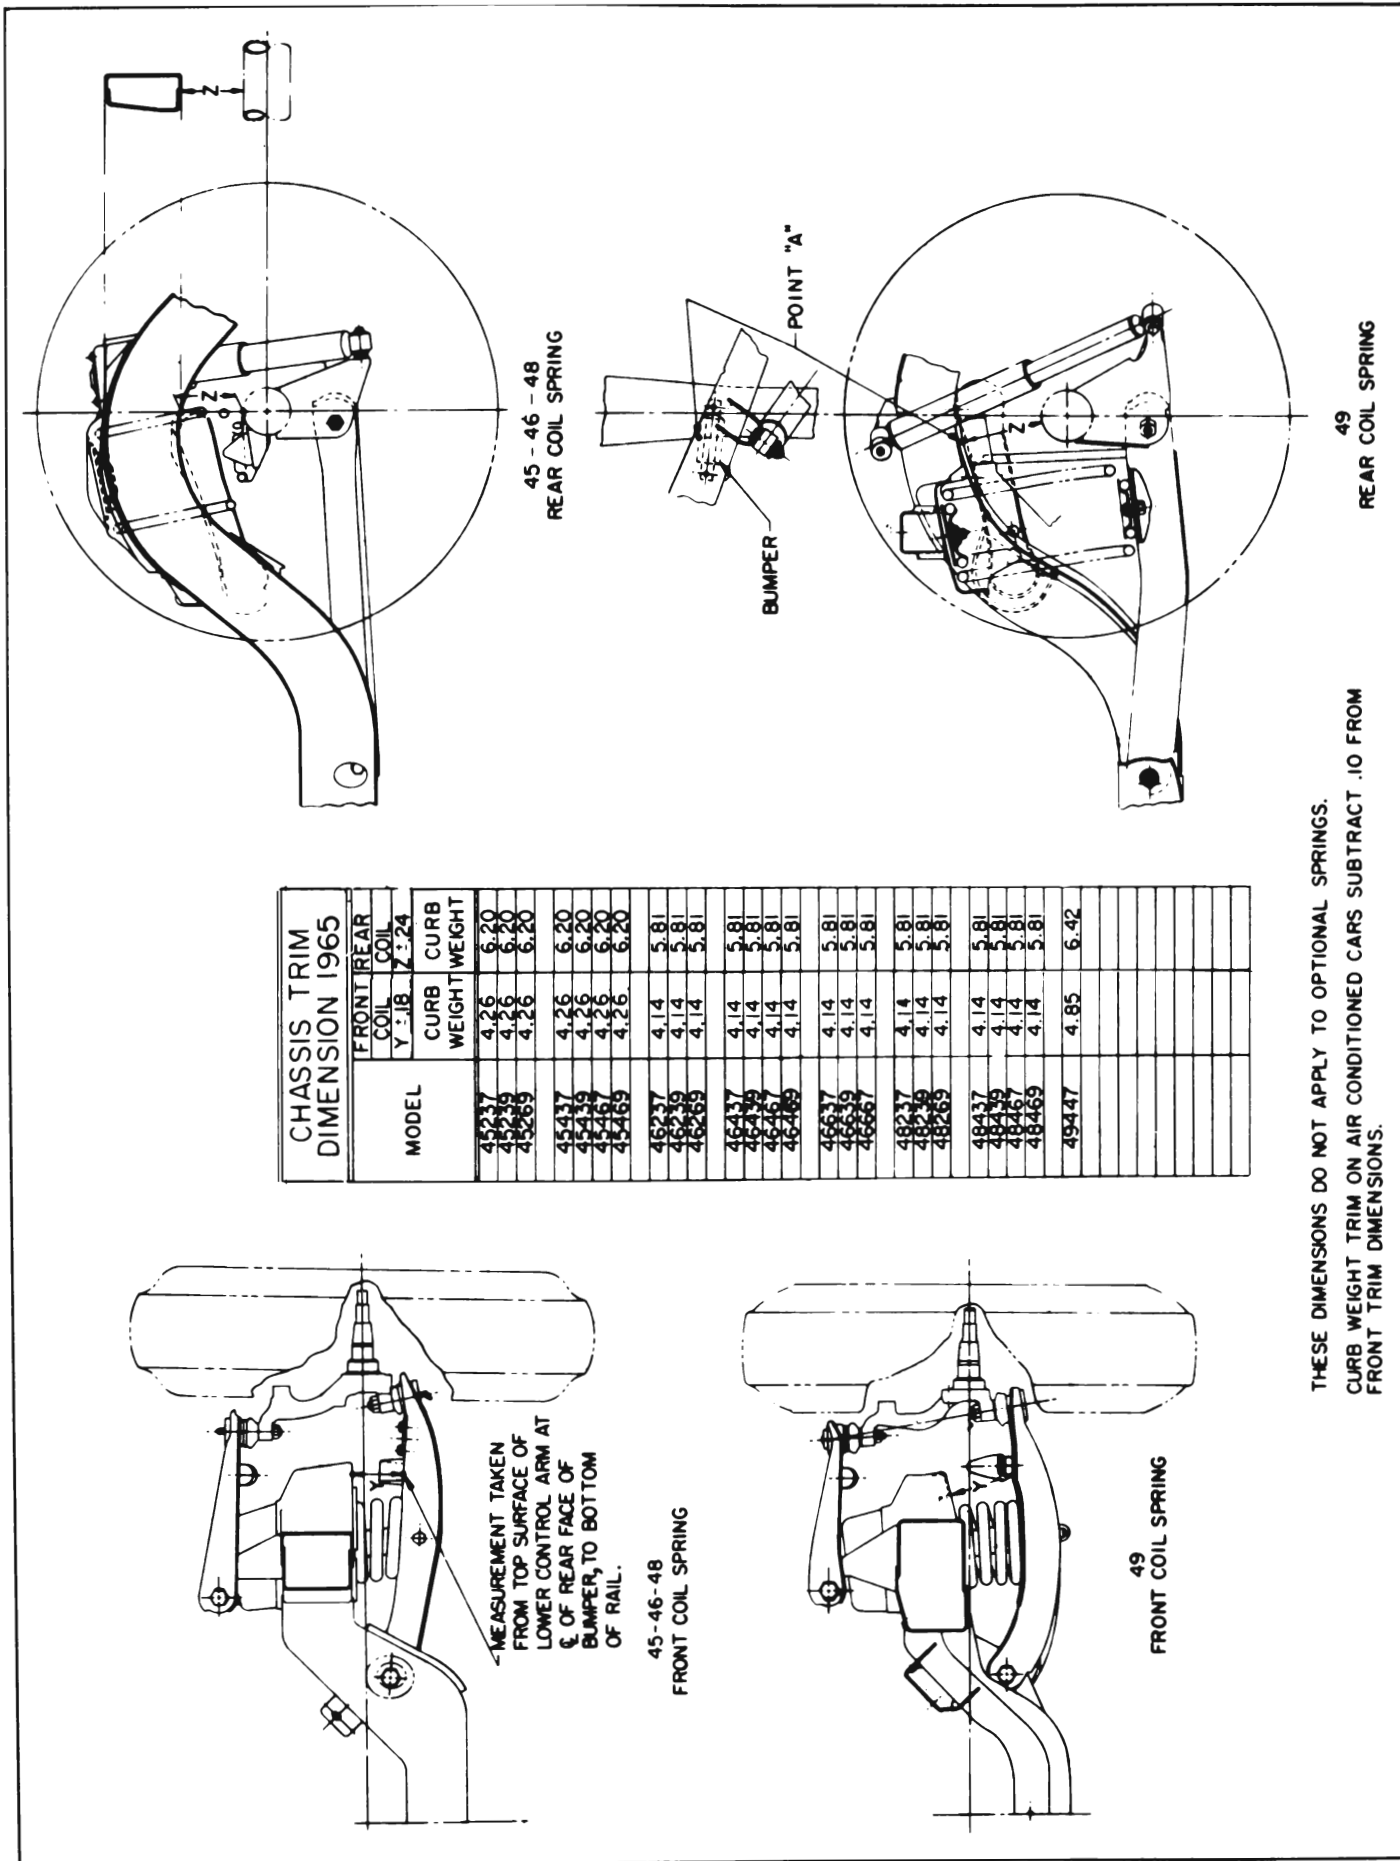

Figure 7-22—1965 Chassis Trim Dimensions
Before measuring spring trim dimensions, bounce both ends of car up and down several times to make sure there is no bind in suspension members, and to let springs take a natural position. When car is at rest, measure the trim height at point "Y" for front spring or point "Z" for rear spring, as indicated in Figure 7-22.
(1) Front Springs. On a car having service miles the front spring trim-dimension "Y" should be as shown in Figure 7-22 chart.
(2) Rear Springs. On a car having service miles the rear spring trim dimension should be as shown on Figure 7-22 chart.